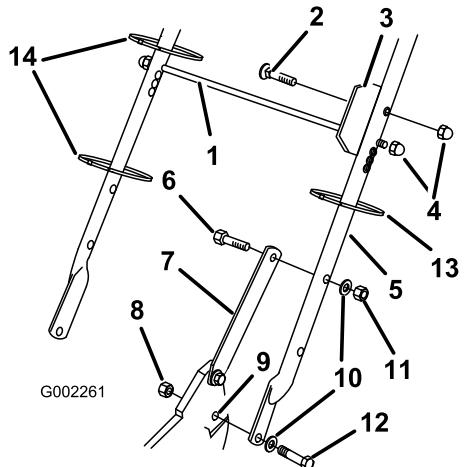

Figure 3
- Mount the handle to the outside of the machine housing (using the bottom hole) with two bolts (5/16 x 1-1/4 inches), washers, and thin locknuts (5/16 inch) (Figure 3).
- Secure the handle latches to the handle with 2 bolts (5/16 x 1-1/2 inches), washers, and locknuts (5/16 inch) (Figure 3).
- Insert the carriage bolt through the bag aligning plate and the second from the top hole on the left side of the handle, and secure it with a cap locknut (Figure 3).
- Slide the bag support rod through the third from the top mounting holes in the handle, and secure each end with a cap locknut (Figure 3).
- Use cable ties to secure the control cables to the handle (Figure 3).